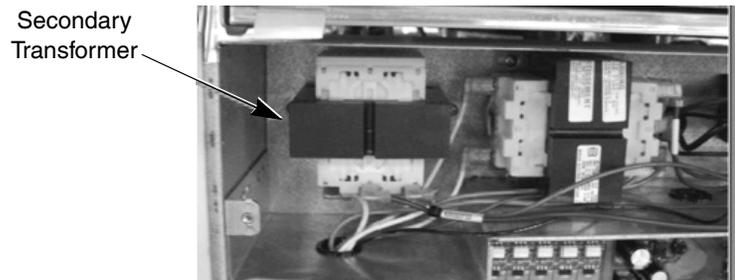

Figure 1. Secondary Transformer
1. Open the electrical box, and locate the secondary transformer (shown in Figure 1). It is located in the upper left hand corner of the electrical box.